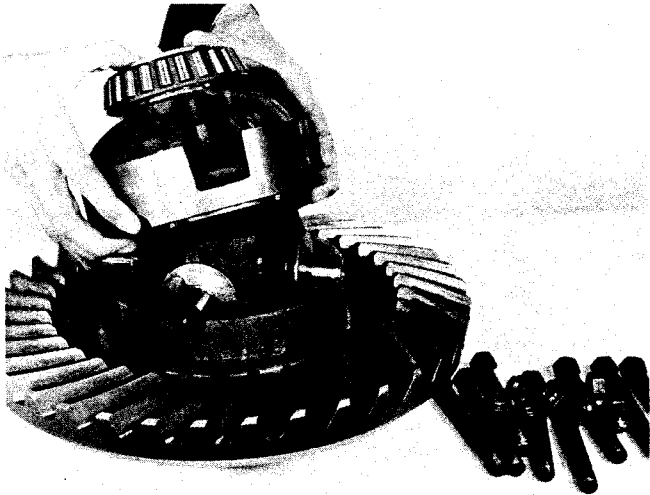

FIG. 95
5. Place pinions and thrust washers on differential spider, lubricate, and set in position on installed side gear. Lubricate and install remaining side gear and thrust washer on pinions (Fig. 95). Be sure hole in side gear thrust washer engages dowel projecting from thrust washer bearing surface in differential case half.